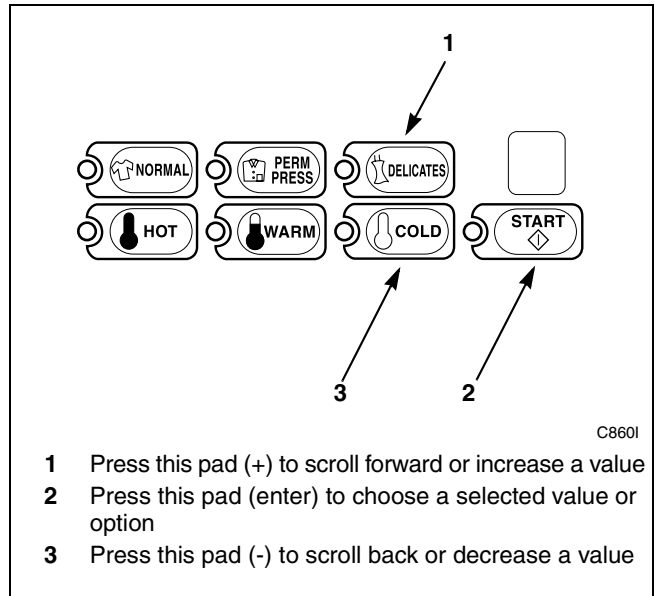

Figure 113
5. Press the DELICATES (+) or the COLD (-) keypad to increase or decrease the hours to the correct time. Refer to *Figure 113*.